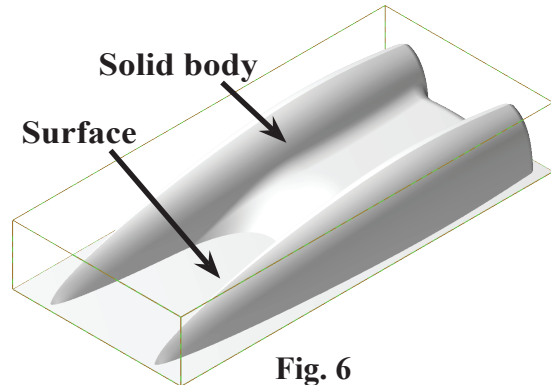

Fig. 6
Step 3. Click the **surface and hull** to select as Drive surfaces/solid, **Fig. 6**.